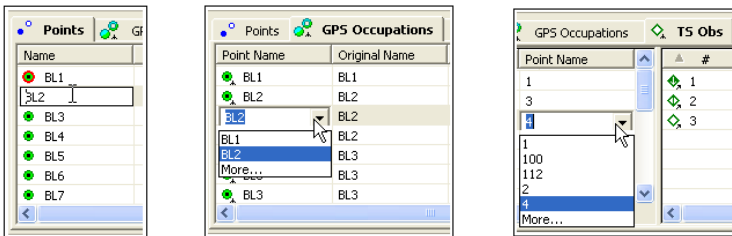

Figure 5-13. Select Point Name to Edit
1. Click a highlighted point name cell, or press **F2** (Figure 5-13). To select data with certain parameters, use the appropriate dialog box (see “Selecting Data” on page 4-53 for details).